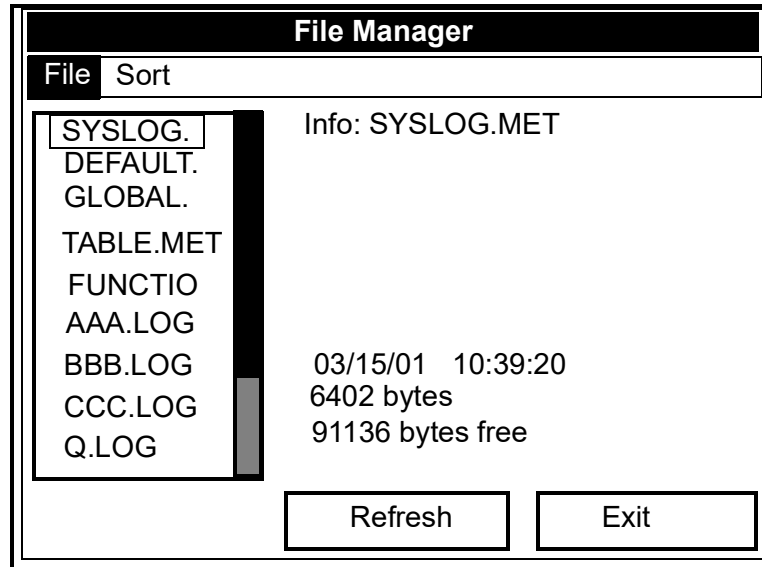

Figure 96: The Drive Manager Window
2. From the Site Menu (shown in Figure 6-6 on page 6-8), use the **[▼]** or **[▲]** arrow keys to move to the Drive Manager entry on the menu. Press **[ENTER]**. The screen now appears similar to Figure 96 below.